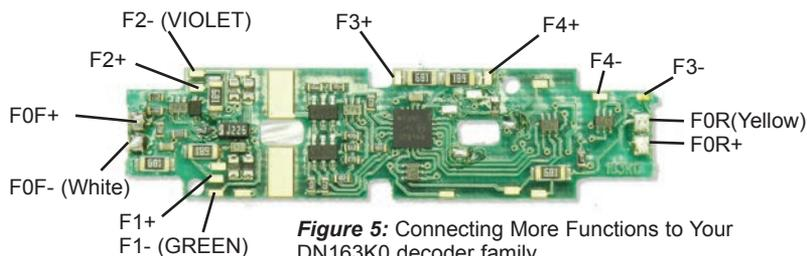

Figure 5: Connecting More Functions to Your DN163K0 decoder family
The DN163K0a is set up at the factory to control six functions. The unit is prewired with two golden-white LEDs set up as Function 0 (F0F-forward and F0R-reverse) for directional lighting shown in *Figure 5* as F0F/F0F+ for the front light and F0R/F0R+ for the rear light. Functions F1, F2, F3 and F4 are available on the decoder and can be used by soldering wires from the pads indicated to the lights (or other functions) you wish to control. All six functions can
2. Install two incandescent 1.5V/15mA lamps (or LEDs) as shown in **Figures 5 & 6**. We strongly recommend the incandescent lamps for realism. The leads from the lamps/LEDs are soldered to F1/F1+ pads on the decoder (**Figure 6**) for the left ditch light and F4/F4+ pads for the right ditch light.